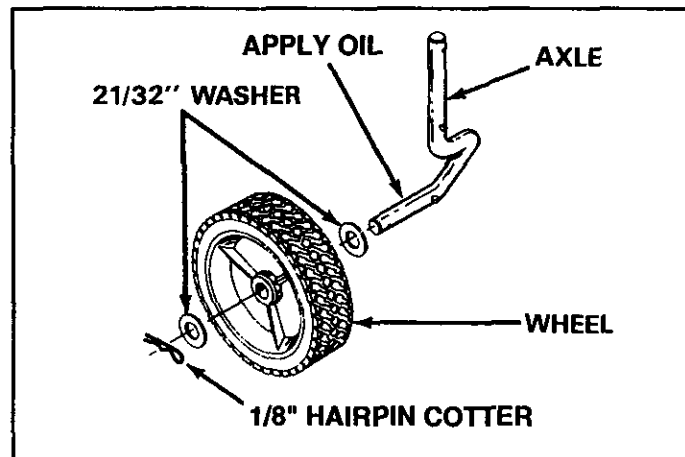

FIGURE 4
- Assemble a 21/32" washer, the wheel (long end of hub first) and another 21/32" washer onto axle. Secure with a 1/8" hairpin cotter. See figure 4.